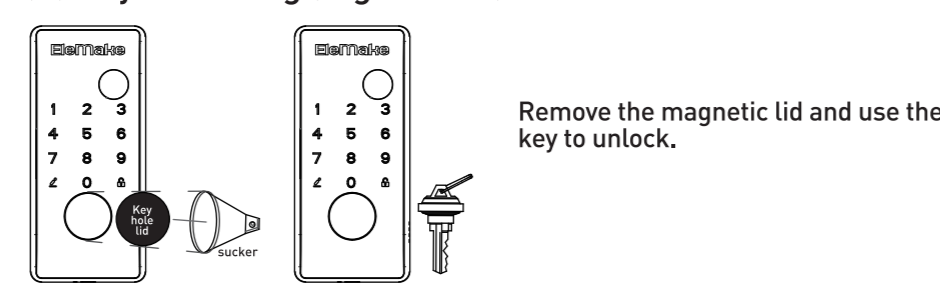

Figure P-2
(3) Key unlocking (Figure P-2)